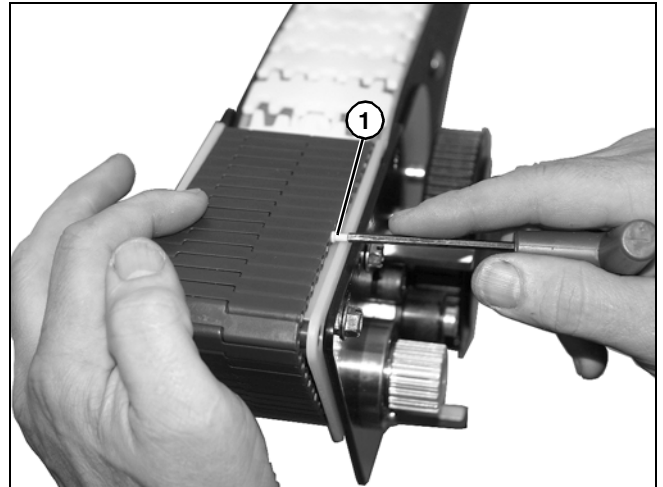

Figure 107
6. Bring ends of belt together and install pin (Figure 107, item 1).